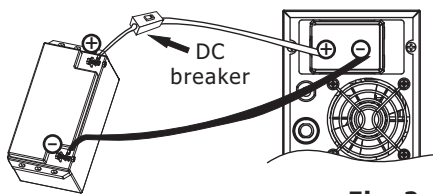

Fig. 2
Step 4- Install a DC Breaker in a positive battery line. The rating of the DC Breaker must be according to the inverter's battery current (50 Amp). Keep the DC breaker off. (see Fig. 2)
1)Single battery connection(Refer to Fig. 2): When using a single battery, its voltage must be equal to the Nominal DC Voltage of the unit (see below Table 1).